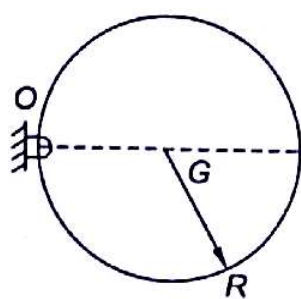

Fig. 18.18
- 18.3 A uniform disc of radius R and mass m is released from rest when O and G are on a horizontal line as shown in Fig. 18.18. What is angular acceleration of disc?